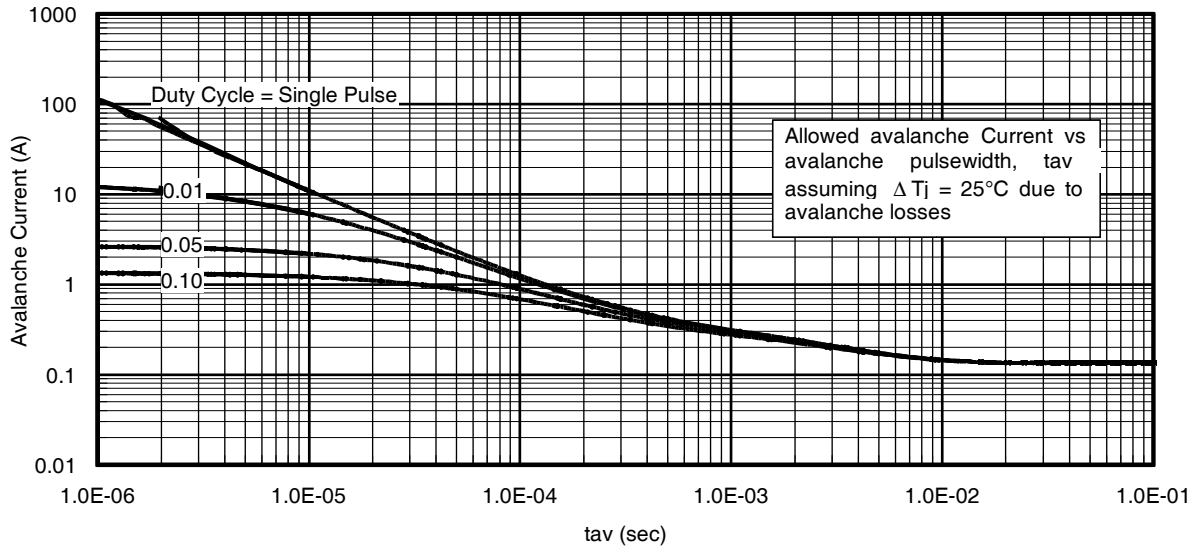

Fig 14. Typical Avalanche Current Vs. Pulsewidth
- ① Repetitive rating; pulse width limited by max. junction temperature. ④ R_{θ} is measured at T_J of approximately 90°C .
② Starting $T_J = 25^\circ\text{C}$, $L = 1.62\text{mH}$, $R_G = 25\Omega$, $I_{AS} = 11A$. ⑤ Limited by T_{jmax} . See Figs. 14, 15, 17a, 17b for repetitive avalanche information.
③ Pulse width $\leq 400\mu s$; duty cycle $\leq 2\%$.
Notes on Repetitive Avalanche Curves , Figures 14, 15:
7. ΔT = Allowable rise in junction temperature, not to exceed T_{jmax} (assumed as 25°C in Figure 14, 15).